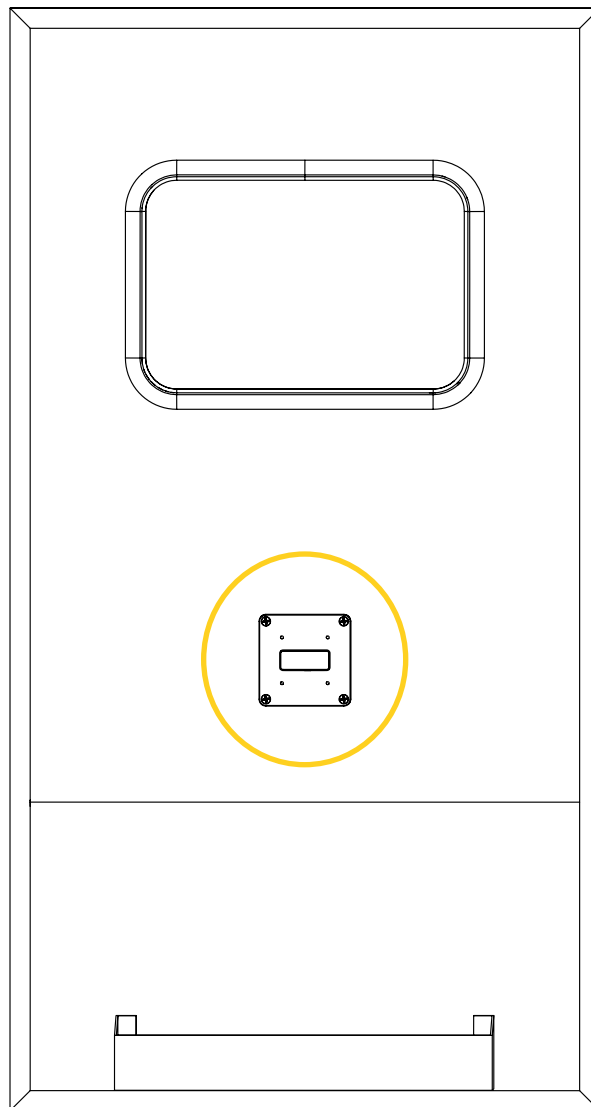

Figure 32: Flex Seqr Vertical Mount installed on a vertical surface
3. Drill four (4) 4.25 in. holes with a diameter of 0.266 in. in the installation surface using the appropriate tool and the drilling template.
4. Place and align the VMFQ Vertical Mount with the drill holes, then partially tighten four (4) 82 degree angle, 1/4 in.-20 thread size flat countersunk screws coated with medium strength thread lock adhesive and four (4) 1/4 in.-20 thread size locknuts using an appropriate tool (Figure 32).